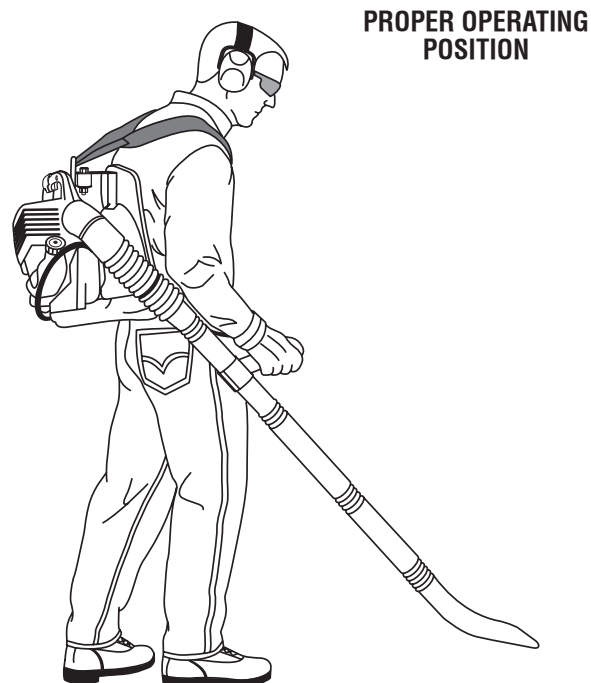

Fig. 10
See Figure 10.
- Put on the blower again. The unit should be operated from the right side as shown in figure 10.